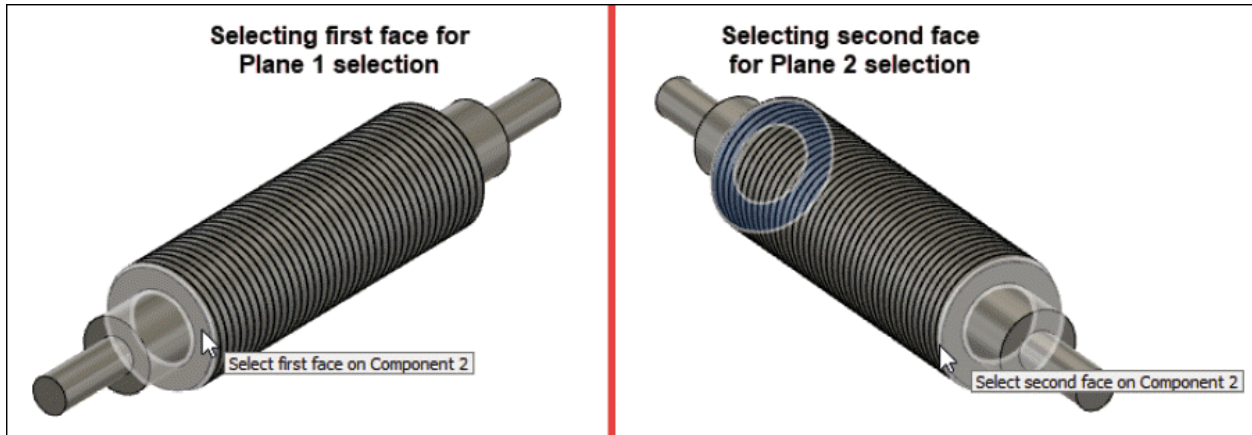

Figure-85. Selecting faces for Component 2
- Select first face of the component for **Plane 1** selection and select second face of the component for **Plane 2** selection as shown in the Figure-85. You are asked to select the snap point on the component.